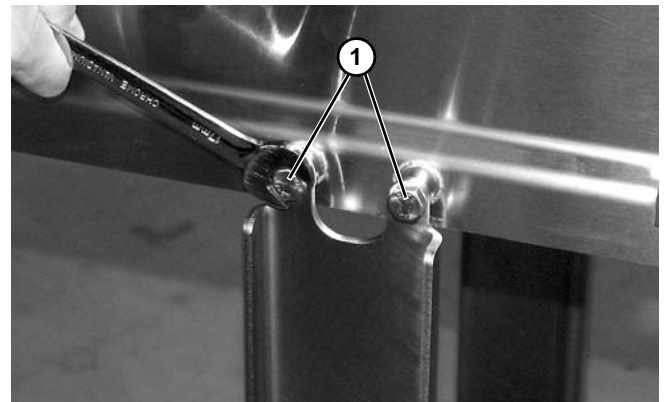

Figure 9
2. Remove two screws (Figure 9, item 1) securing the stand brackets from one side of the conveyor.